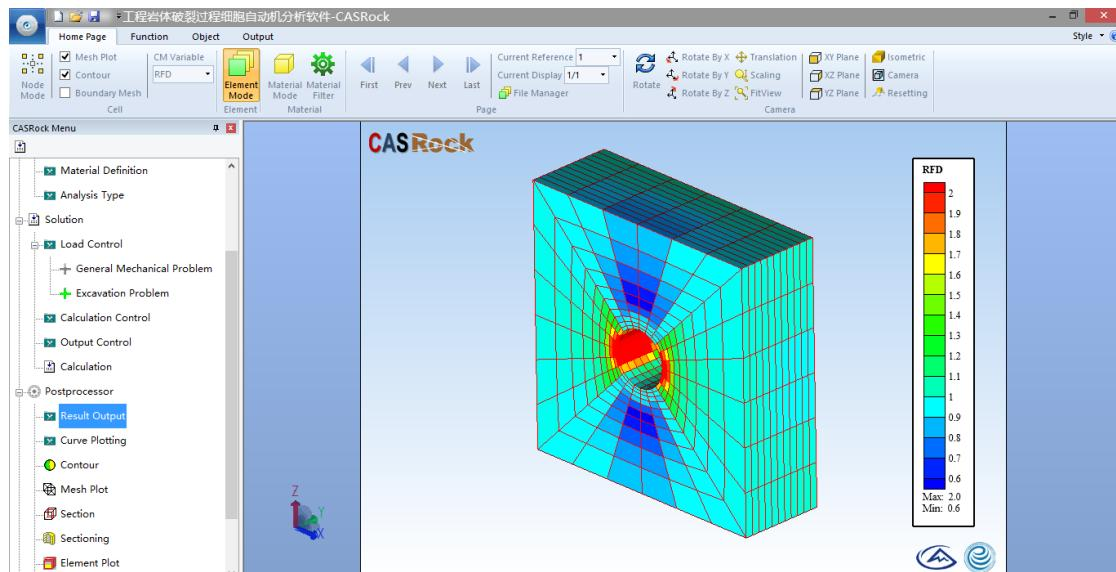

Figure 29 Element mode
- 1) Element mode: read the result with "Elem_contour" as the prefix and "econ" as the suffix in “data” folder (Figure 29);